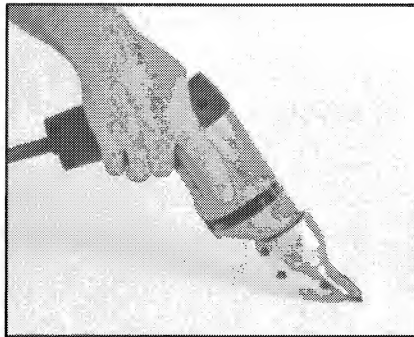

Fig. 1
**WARNING:** The gear housing, intermediate plate, and cutting head may be made live if the tool cuts into live wiring. To prevent accidental shock: the tool must be held as shown in Fig. 1.